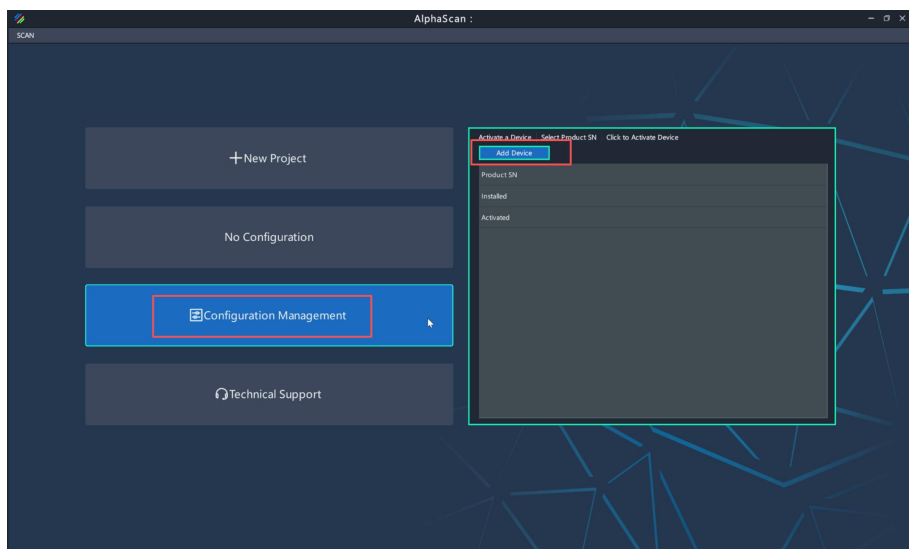

Figure 15
(1)Click "Configuration Management", then click "Add Device", and a pop-up window will appear to select a folder, as shown in Figure 15.